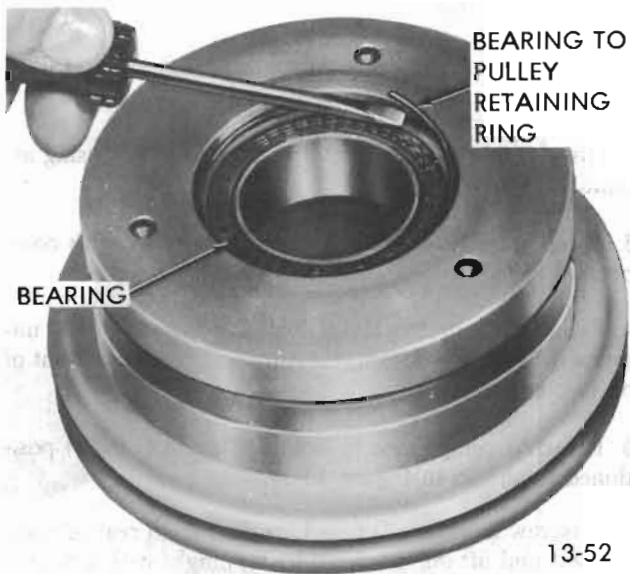

Figure 13-29 Removing Pulley Bearing Retainer
4. Remove bearing to pulley retaining ring with a small screwdriver (see Figure 13-29).
3. Lock bearing in position with bearing to pulley retainer ring (see Figure 13-29).